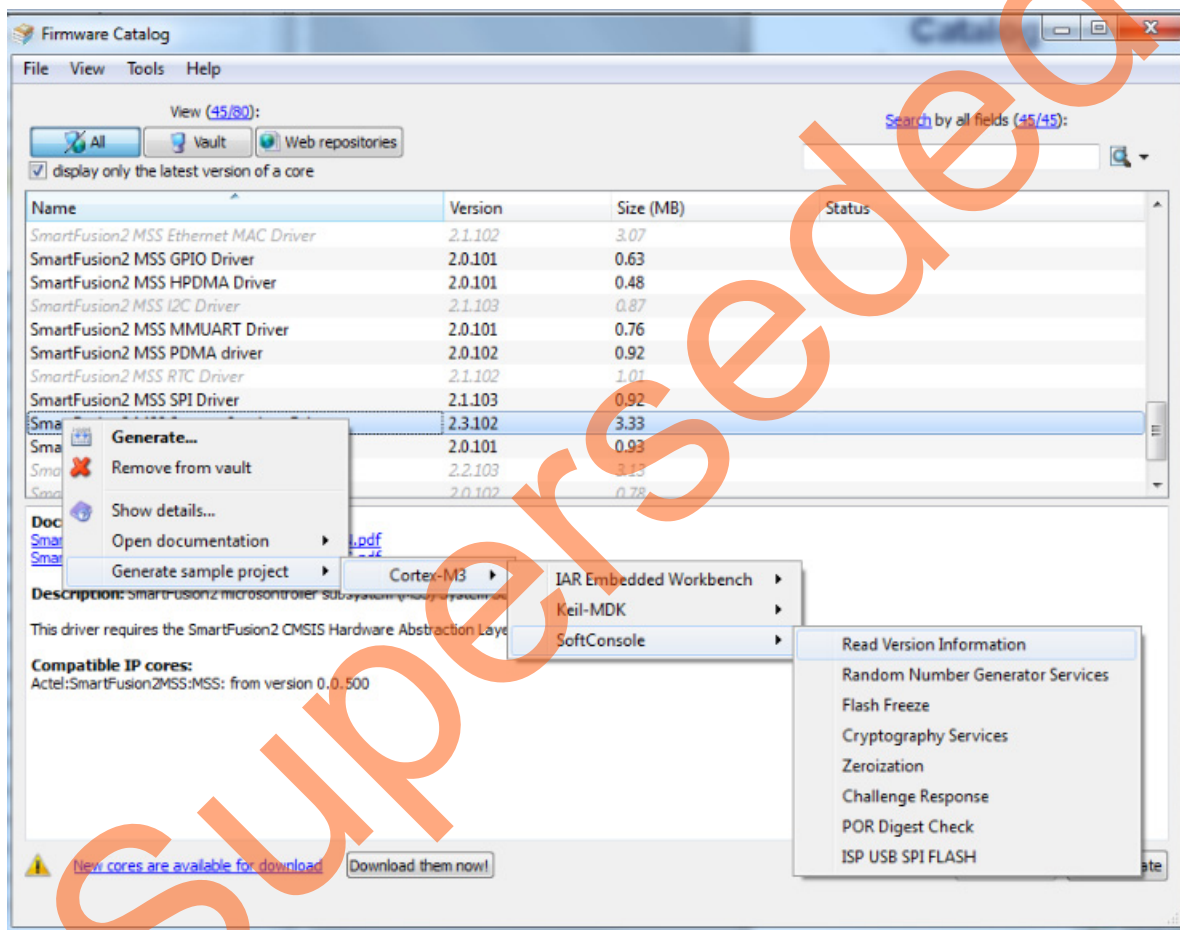

Figure 1 • Downloading Sample Project from Firmware Catalog
1. Click **Start > Programs > Microsemi SoC Libero SoC 11.4 > Firmware Catalog v11.4 > Firmware Catalog**. Right-click on **SmartFusion2 MSS System Services Driver** and select **Generate Sample Project > Cortex-M3 > SoftConsole > Read Version Information** as shown in Figure 1.